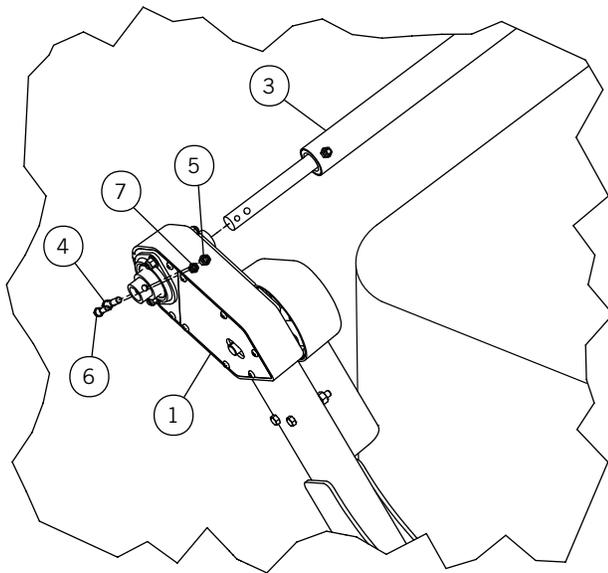

Figure 33-2
- 2) **Figure 33-2 & 33-3.** Insert roll pipe into gearbox and attach with supplied hardware.